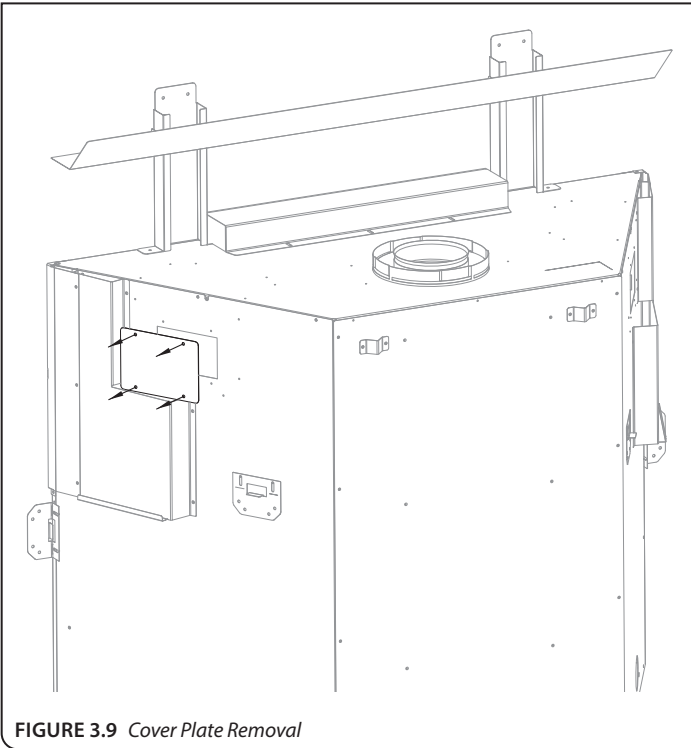

FIGURE 3.9 Cover Plate Removal
FIGURE 3.9 shows removal of the Heat Transfer Kit cover plates. There are (2) square cover plates located on the left and the right side of the outer shell of the appliance. This appliance can have (2) Heat Transfer Kits installed at the same time. It can be up to two of the same heat transfer kit or a combination of interior and exterior kits.